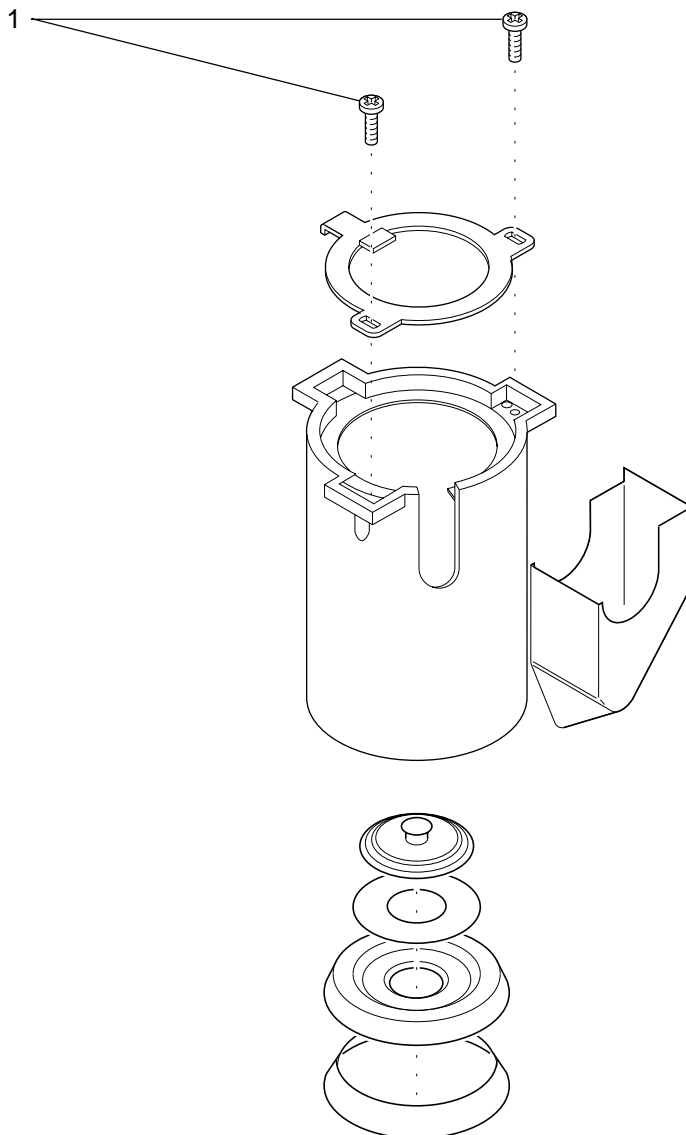

Fig. 1
- The screws 09170516 will be replaced by the screws 36006300 (see Fig.1).